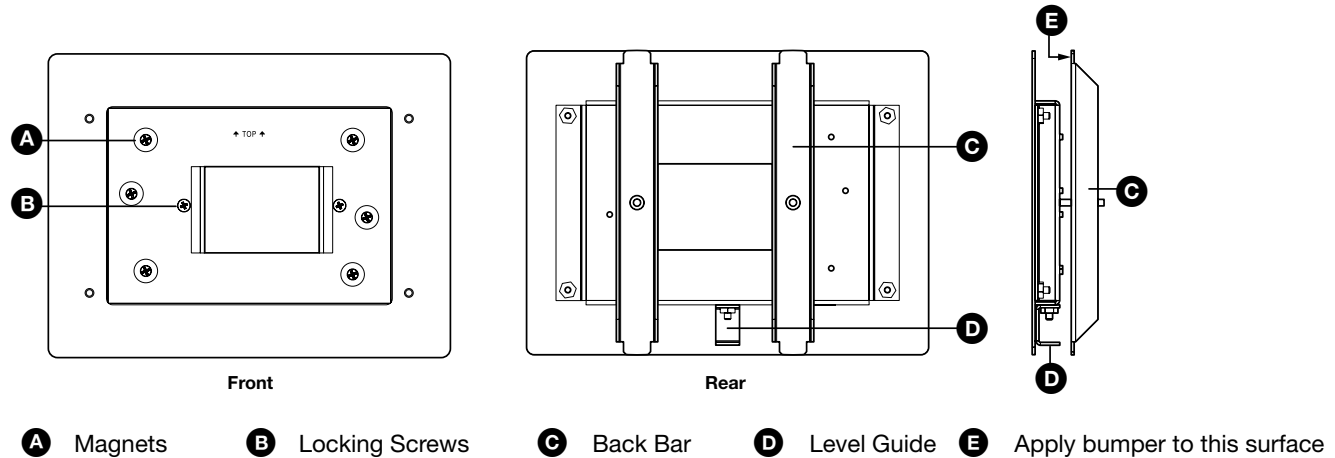
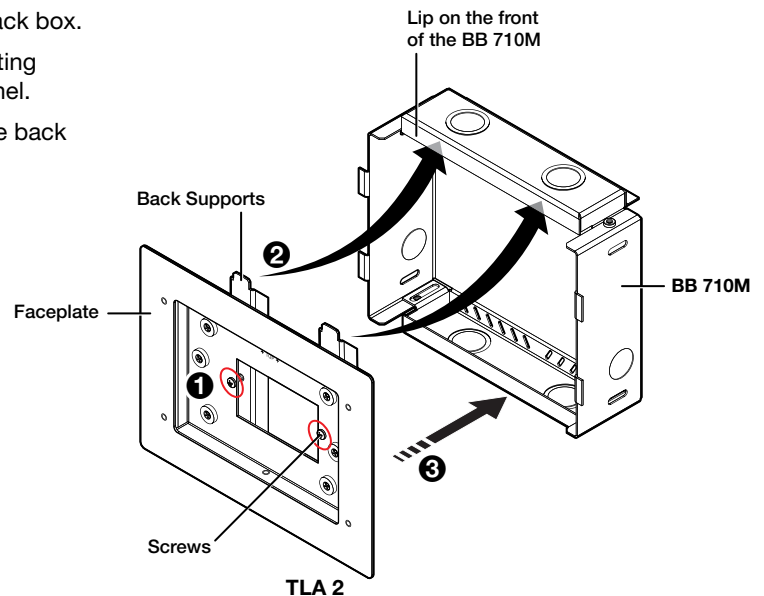

Figure 1. TLA 2 Front and Rear Panels
Figure 2. Installing the TLA 2 in a Back Box
Figure 2 shows how to install the TLA 2 into a preexisting back box.
2. Loosen the locking screws (see figure 1, Ⓑ) holding the back bars (Ⓒ) of the TLA 2 (see figure 2, ①).
4. Tilt the TLA 2 so that the top is slightly forward relative to the back and move the tops of the back bars through the hole in the wall and up behind the top lip of the back box (②).
5. Move the TLA 2 up as far as it will go and move the bottom inwards so that the bottoms of the back bars move past the bottom lip of the back box (③).
6. Make sure the TLA 2 is seated correctly. The level guide on the back of the unit (see figure 1, Ⓓ) should sit on top of the lower lip of the back box.
2. If the drywall is less than 5/8" (16 mm) apply the four provided bumpers to the ends of the back bars on the inside surface (see figure 1, **E**, on the previous page).
7. The level guide on the back of the unit (see figure 1, **D**, on the previous page) should sit on top of the bottom edge of the hole.